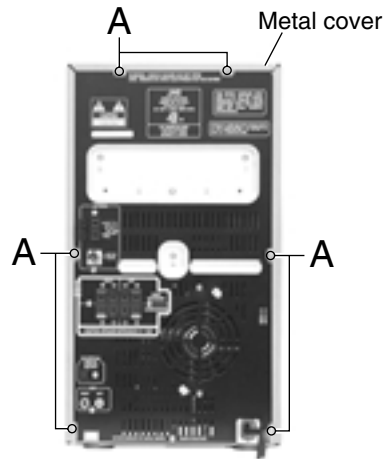

Fig.1
3. CD traverse unit is put up as shown in Fig. 1.
(See Fig.1 ~ 3)